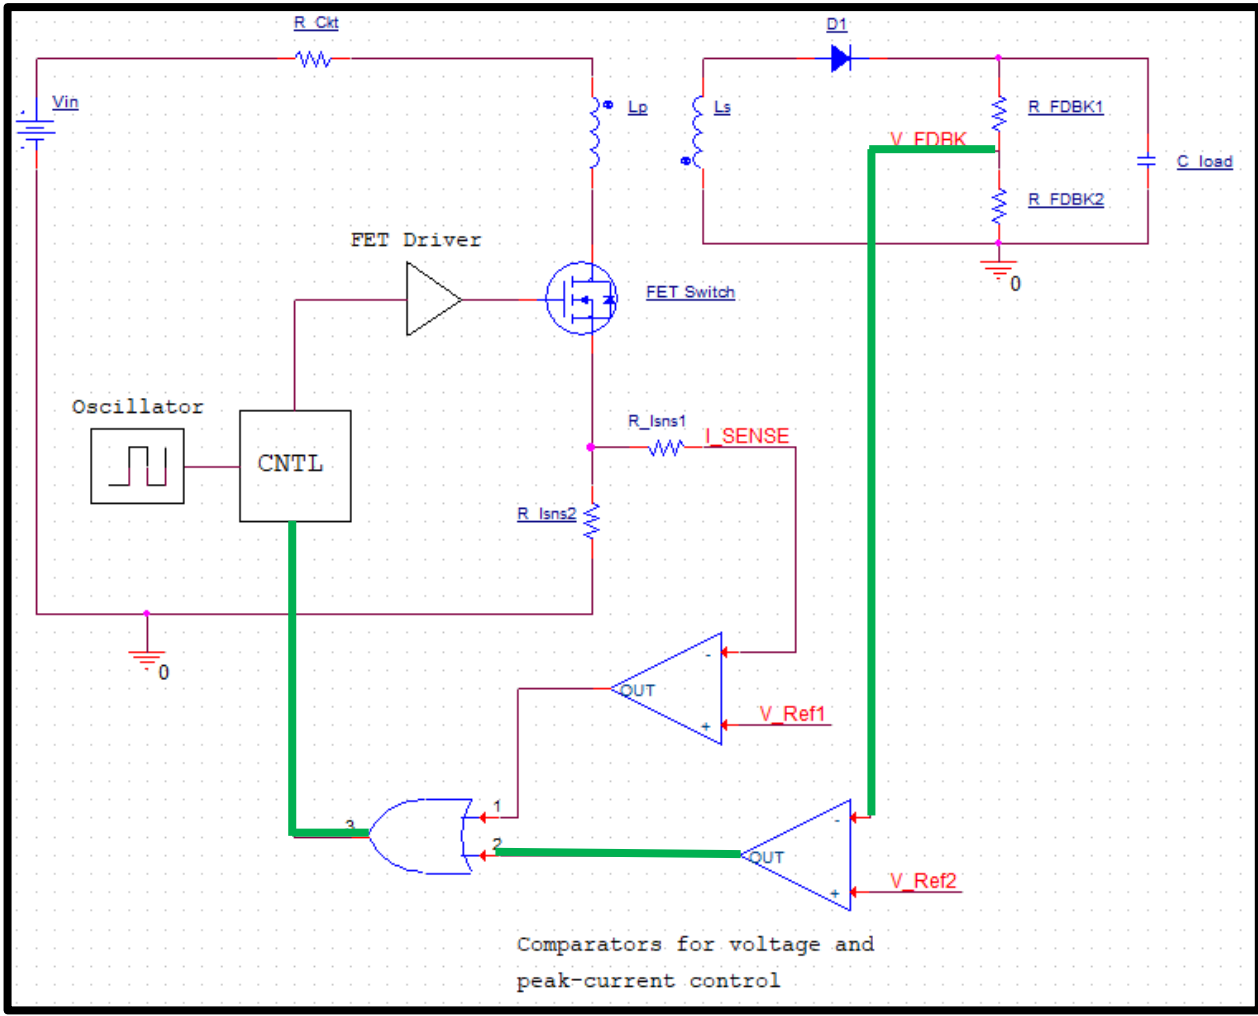

Figure 1. Flyback converter with both current and voltage mode-control. The control loop to be cut is highlighted in green.
- Design alternative means for secondary-side voltage control without using direct electrical feedback. Control loop to be cut is shown in green in Figure 1.
- Design should accommodate the needs of charging the load capacitor (CL) to 3.5 kV